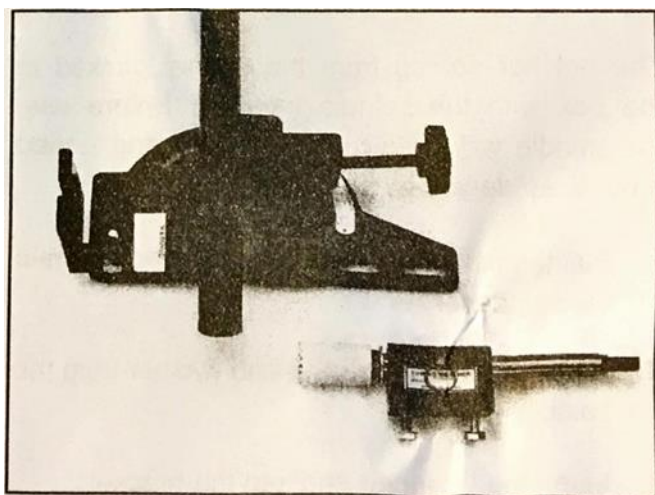

Figure 4. Ready to mount the hole saw
1. Remove the 2 hex bolts located on the back of the jig which secure the spindle support to the jig as in **Figure 4**.